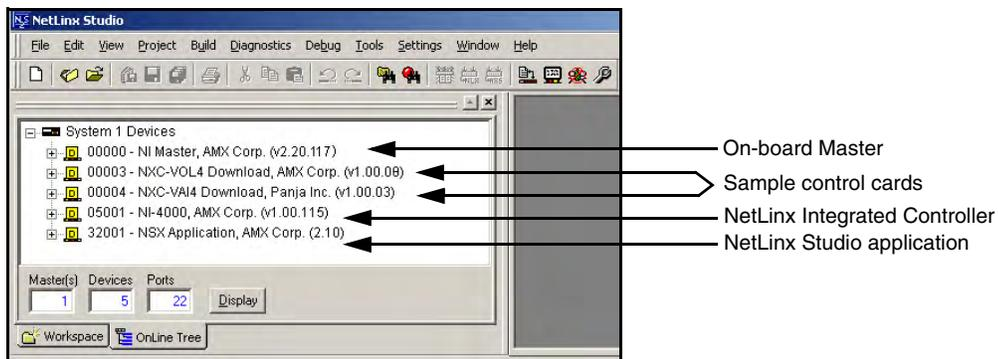

FIG. 29 Sample NetLinx Workspace window (showing OnLine Tree tab)
1. Click on the **OnLine Tree** tab in the Workspace window to view the devices on the System. *The default System value is one (1).*
3. After the Communication Verification dialog window indicates active communication between the PC and the Master, verify the NetLinx Master (**NI Master**) appears in the **OnLine Tree** tab of the Workspace window (FIG. 29). *The default NI Master value is zero (00000).*